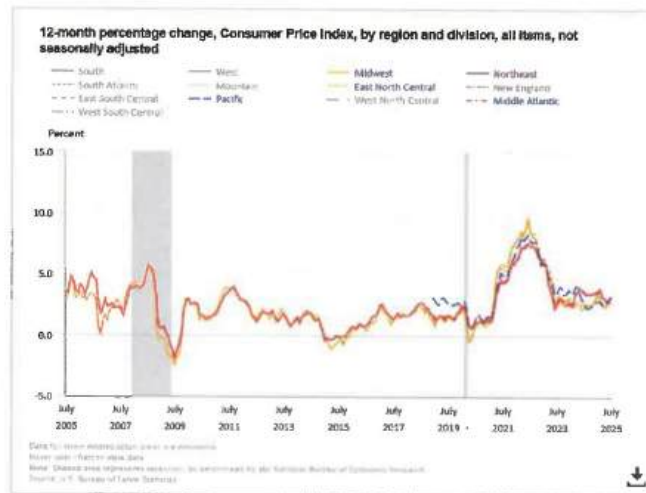

Figure 1: Image Credit <https://www.bls.gov/charts/consumer-price-index/consumer-price-index-by-region.htm>
The Federal Reserve enacts policy with **the goal of keeping inflation at 2%**, measured by the Consumer Price Index shown in Figure 1 above. **If inflation is significantly below the inflation target, the Federal Reserve may cut interest rates** to spur economic activity and bring inflation back to the 2% target. **When inflation exceeds target inflation, the Federal Reserve will react and adjust the interest rate higher** in an attempt to check inflation.
6. (5 Points) What fundamental mode of behavior is being described in the previous description and shown in Figure 1 above?